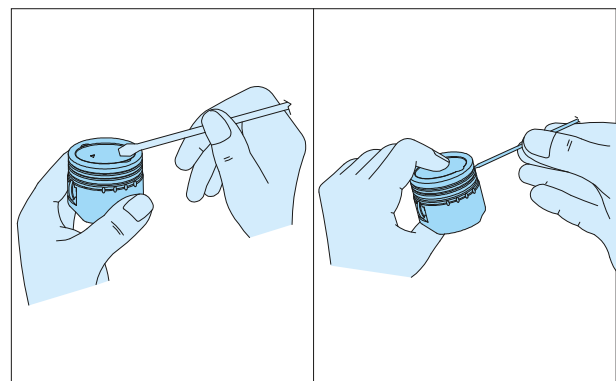

Fig. 3.99
- Carbon in the groove is liable to cause the rings piston to stuck in the groove, and this will lead to reduced engine power output. (Fig. 3.99)